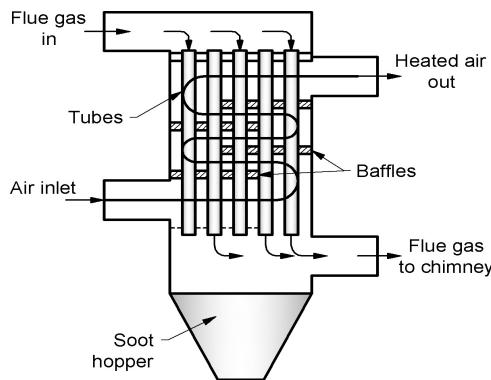

Fig. 2.15 Air pre-heater
- (1) Fig. 2.15 shows schematic diagram of recuperative tubular type air pre-heater. In this type of air pre-heater, the passage of air and hot gases are separated by metallic wall.
- (2) It consists of large number of tubes which are enclosed in a casing. After leaving the economiser, the flue gases pass inside the tubes of air pre-heater and air flows over the tubes as shown in Fig 2.15. Air and flue gases flow in opposite directions.
- (3) Baffles are provided across the tubes to make the air follow zig-zag path number of times. By doing so, the time taken by the air to pass through the tube increases and more amount of heat is absorbed by the air from the flue gases. Preheated air is then supplied to the furnace for combustion.
- (4) Soot obtained due to cleaning of tubes is collected at the bottom in a soot hopper.